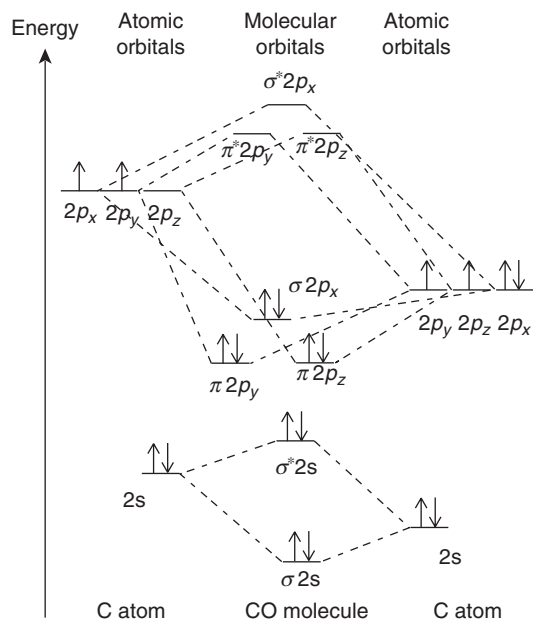

Figure 28 MO diagram of CO.
3. **CO molecule:** The MO diagram (Figure 28) for the diatomic carbon monoxide (CO) shows that it is isoelectronic with nitrogen (N₂).